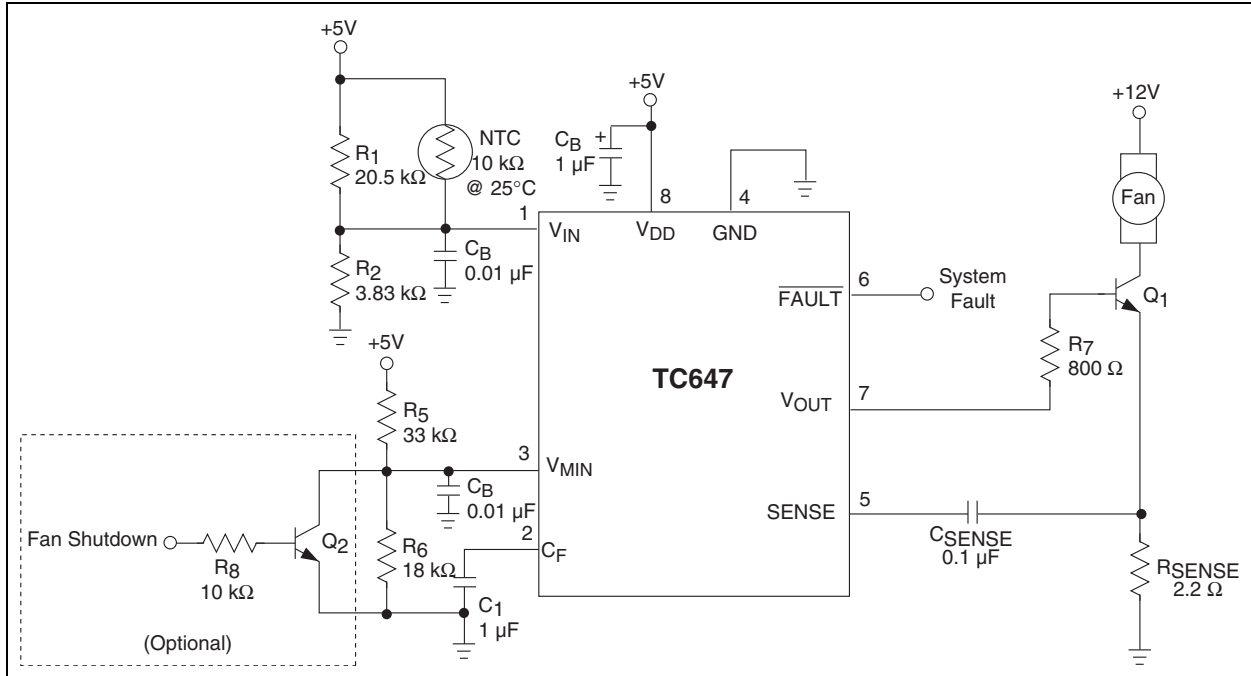

FIGURE 5-9: Design Example.
Step 1. Calculate R_1 and R_2 based on using an NTC having a resistance of 10 k Ω at T_{MIN} (25°C) and 4.65 k Ω at T_{MAX} (45°C) (see Figure 5-9).